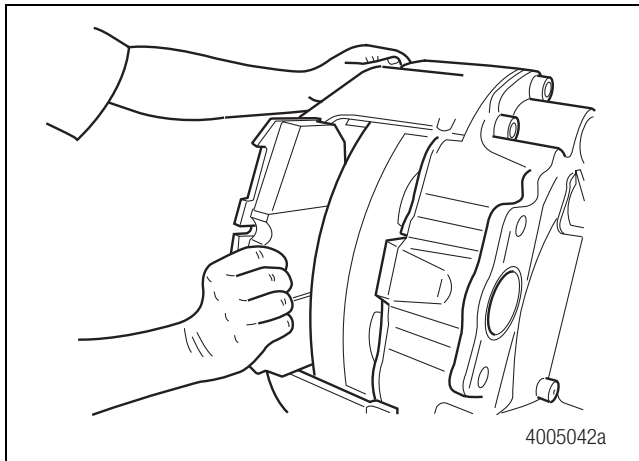

Figure 4.6
4. Remove the outboard brake pad from the caliper assembly and mark the brake pad "outboard". Figure 4.6.